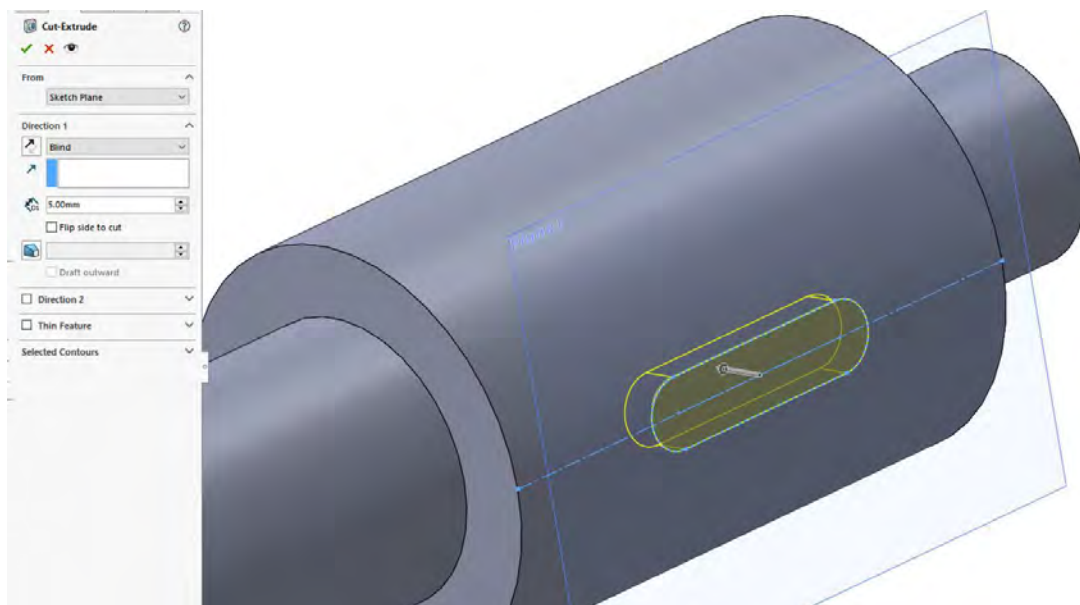

Figure 12 – Cutting a groove using Extruded Cut
- After completing the sketch, use the **Extruded Cut command** to cut the shaft body to the specified keyway depth (Figure 12).